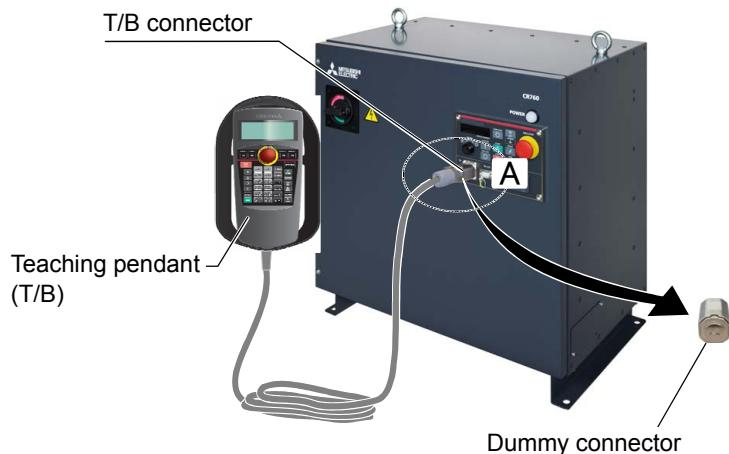

Fig.2-13 : Installing and removing the T/B (CR750/CR760 controller)
- 2) Connects T/B connector to the robot controller. Use as the upper surface the lock lever shown in Fig. 2-13, and push in until there is sound.